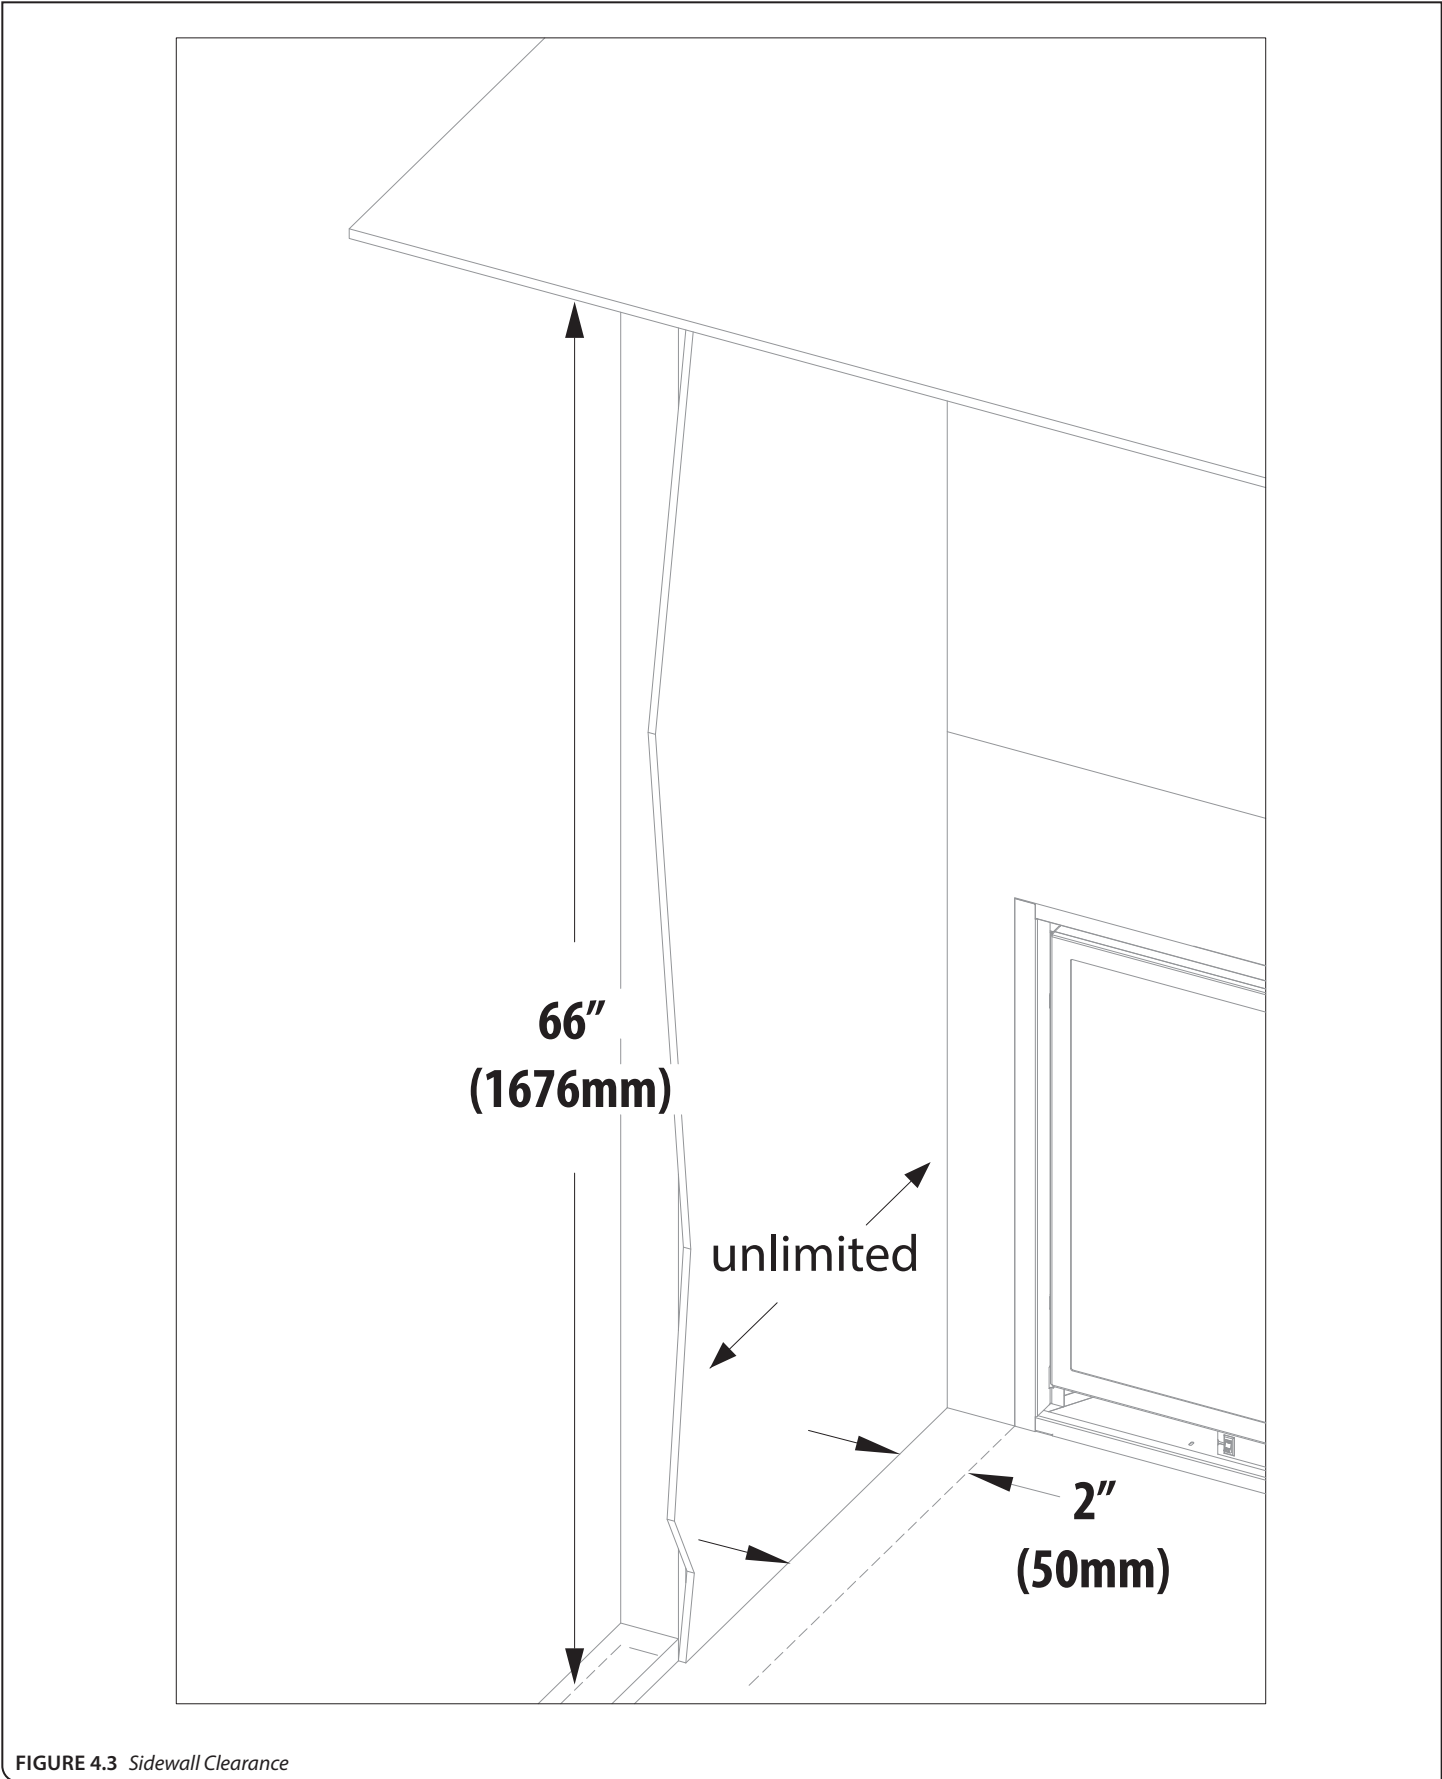

FIGURE 4.3 Sidewall Clearance
- The adjacent sidewall minimum clearance is 2" (50mm) from the appliance sides. See **FIGURE 4.3** on page 25.